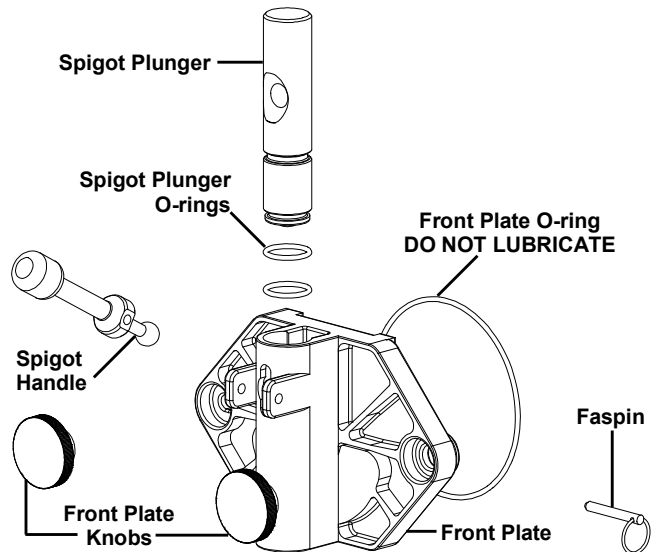

Fig. 23
- b. Slide the lubricated spigot plunger into the front plate (Fig. 23) making certain that the spigot handle slot is aligned to the front.